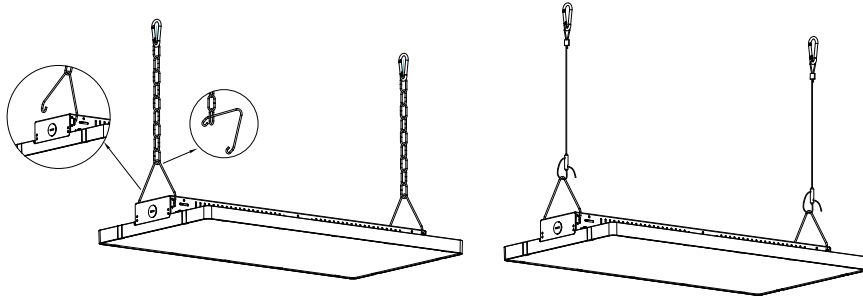

Figure 1
- Step1. Hook up the chain; (Figure 1)
- Step2. Connect the chain with fixture; (Figure 1)
- Step3. Fix the chain on the rail, adjust the chain length as per need; (Figure 1)